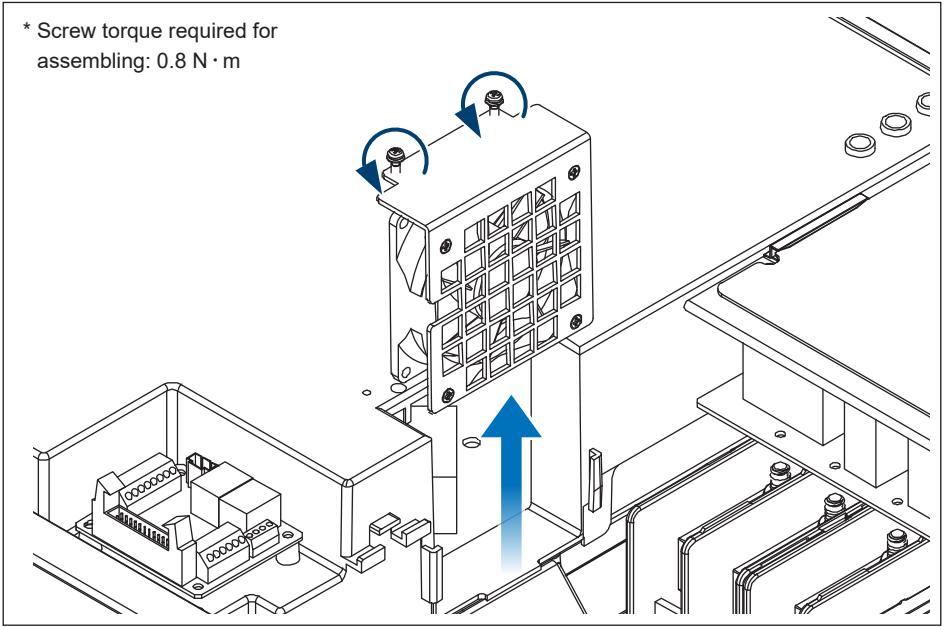

Figure 5-13: Take off the internal fan 2
- (2) Loose 2 self-retaining screws and remove the fan cabinet. (**Figure 5-13**)